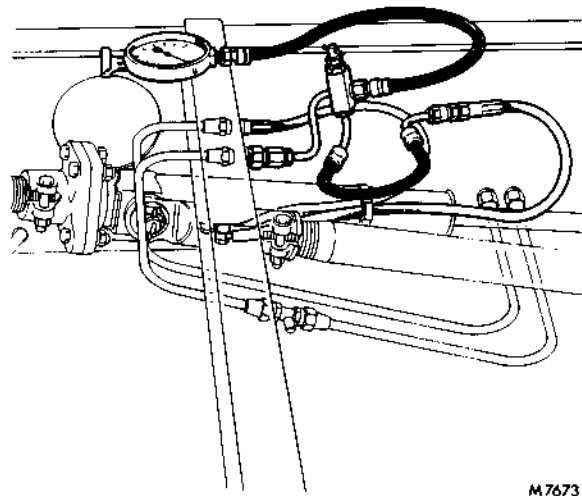

FIG. 2. MS 64 TEST EQUIPMENT INSTALLED
2. Place a suitable container beneath the oil pipe connections at the cross-member aft of the steering gear. Disconnect the outer flexible delivery pipe, and install MS 64 basic test equipment with MS 64-3 adaptors, see Fig. 2. The gauge must be on the pump side of the valve.